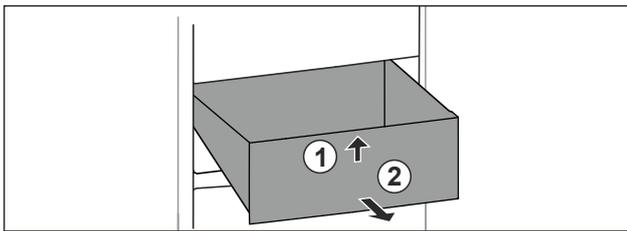

Fig. 25
- ▶ Lift up drawer at the front. Fig. 25 (1).
- ▶ Remove drawer to the front. Fig. 25 (2).